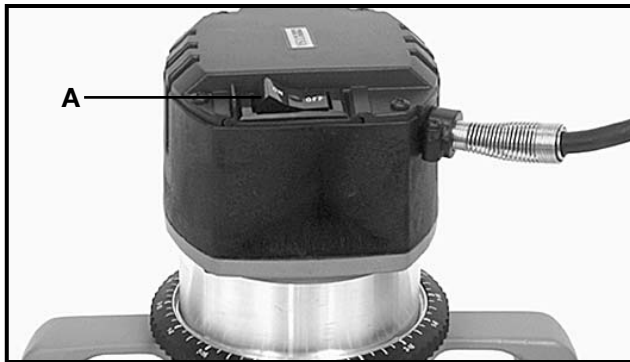

Fig. 6
When using the base with two handles, as shown in Fig. 6, the motor is started and stopped by depressing the rocker switch (A) Fig. 6, into the ON or OFF position.